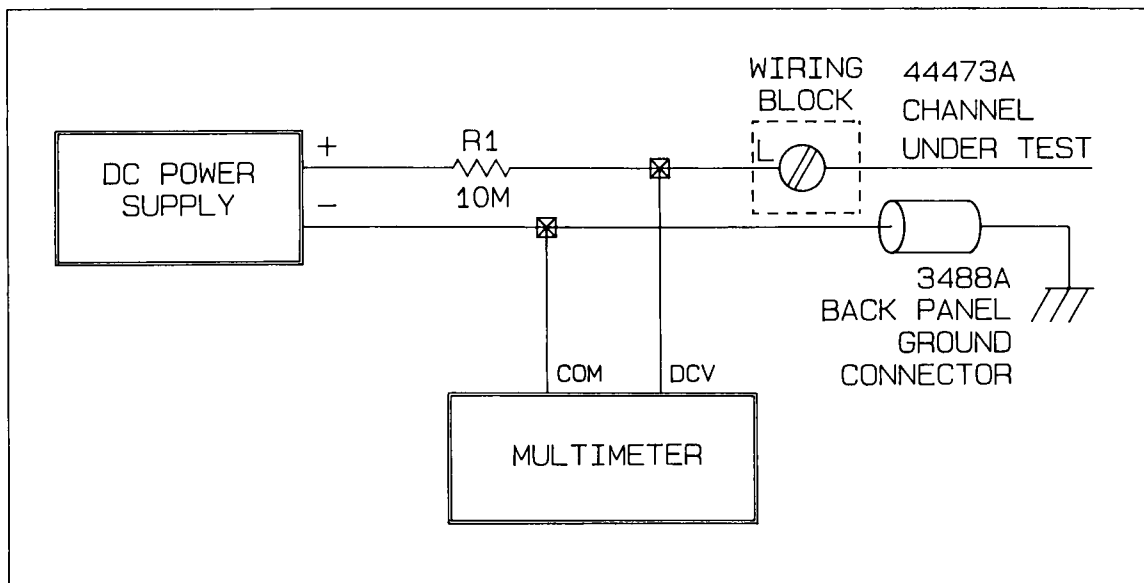

Figure 11-5 Row Or Column To Chassis DC Isolation Test
7. Connect the 3488A backpanel ground terminal (chassis ground) and the low line of the channel under test (row 0 to start) into the test circuit as shown in Figure 11-5.